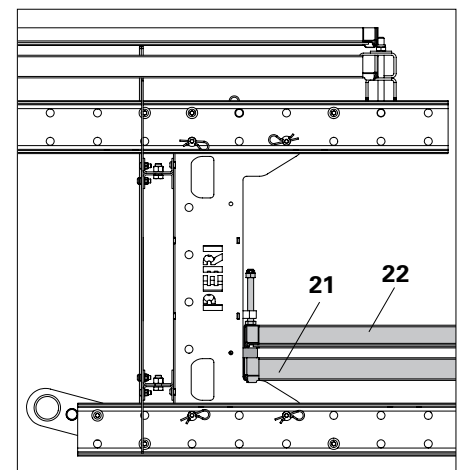

Fig. C1.22c
1. Insert Screen Element (21) on the Platform Cantilever Beam (32) under the distance plate (32.2).
3. If necessary, place Telescopic Screen (22) on the distance plate, mount the other side on the Screen Adapter. (Fig. C1.22c)